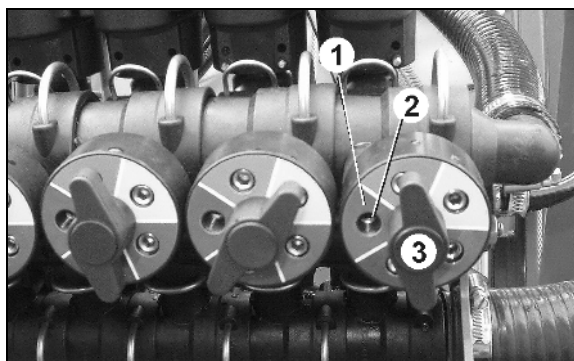

Fig. 4
7. The coloured icons on the equal pressure pre-selection disks (Fig. 3/1) correspond to the colour of the relevant spraying nozzle. The coloured icon must point to the left hand side (Fig. 4/1).
8. Pre-adjust the equal pressure valve chest via the stud screw (Fig. 4/2).
- o Turn the stud screw (Fig. 4/2) related to this boom part width section valve until the spray pressure indication shows again the spray pressure of 4 bar. Then open this boom part width section.
10. After the pre-adjustment of the equal pressure for the relevant nozzle, the equal pressure can be re-established after every nozzle change by turning the equal pressure pre-select disc to the related nozzle colour. For this slacken the thumb nut (Fig. 4/3), pull out the equal pressure pre-select disc and turn – retighten the thumb nut.